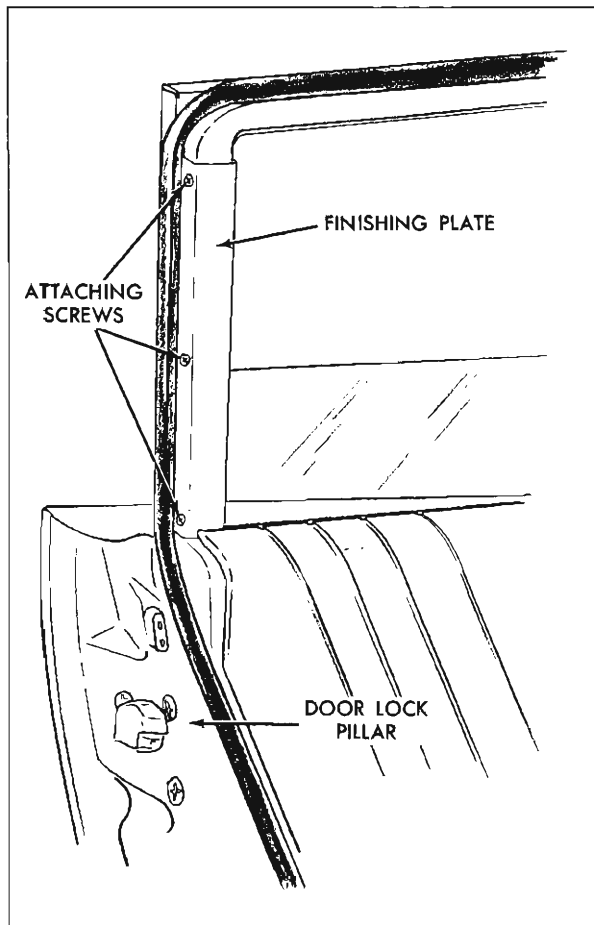

Fig. 3-46 Finishing Plate "35-45" Styles
3. Remove screws securing door belt trim support rear finishing plate and remove plate (see Fig. 3-46).